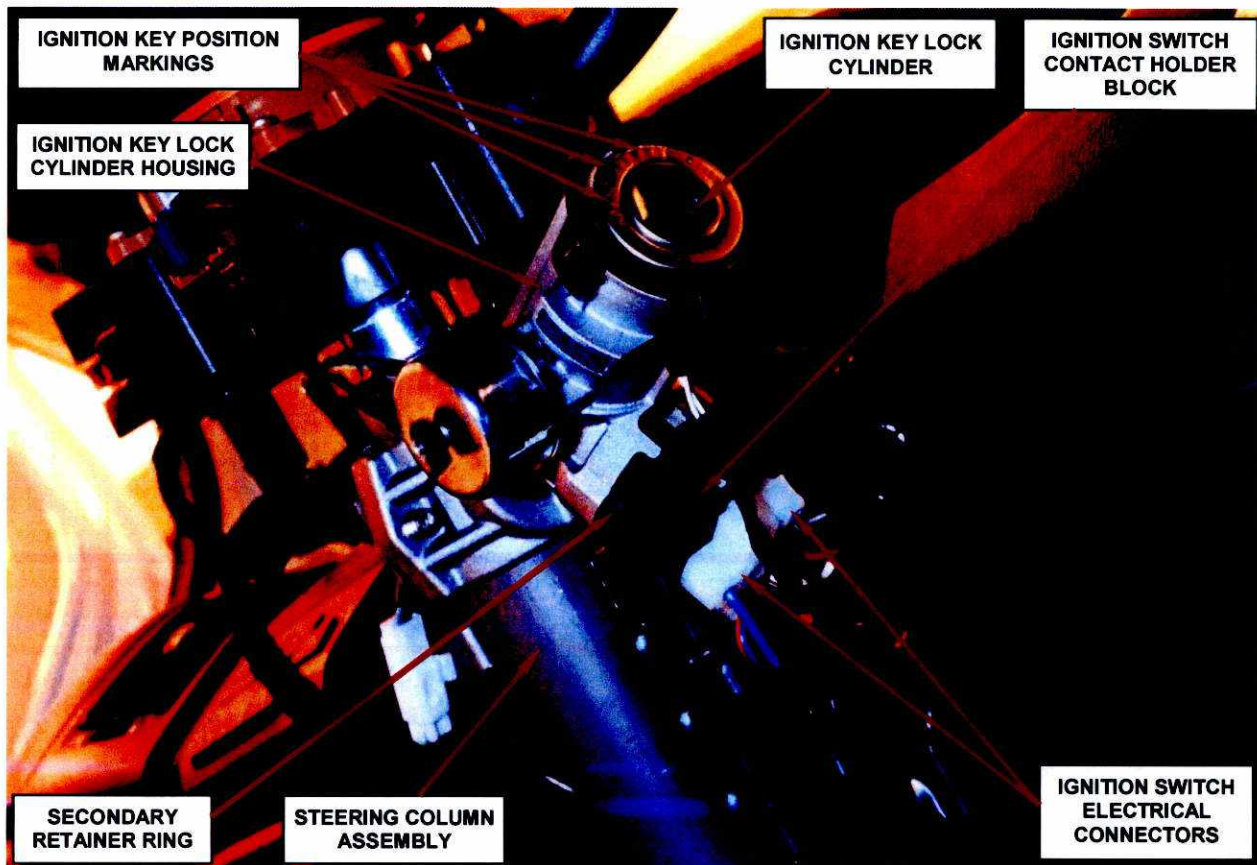

Figure 3 – Electrical Connectors and Secondary Retainer Ring
8. Disconnect the two ignition switch white electrical connectors (Figure 3).
9. Remove and discard the contact block secondary retainer ring (Figure 3).
10. Insert the ignition key into the ignition lock cylinder and place the ignition switch in the “MAR” position (Figure 3 and 4).
15. Connect the two electrical connectors to the contact holder block (Figure 3).